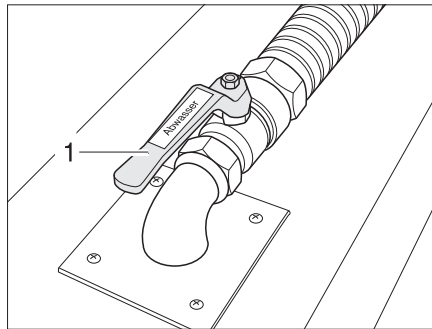

Fig. 342 Waste water tap
The waste water tap (Fig. 342,1) is fixed in the double floor. The waste water tap is black and is labelled with the word "Abwasser" (waste water).
- Open the waste water tap (Fig. 342,2). The waste water will run out.